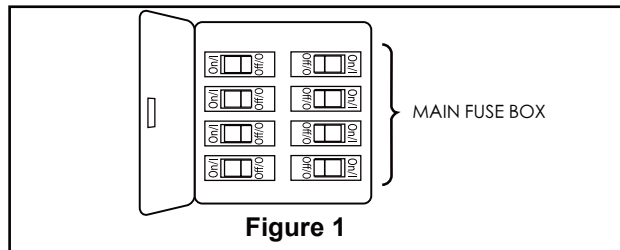
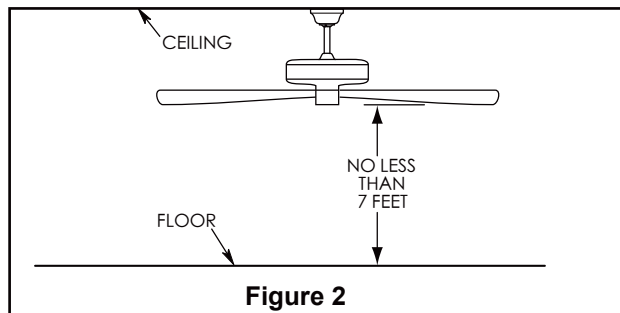
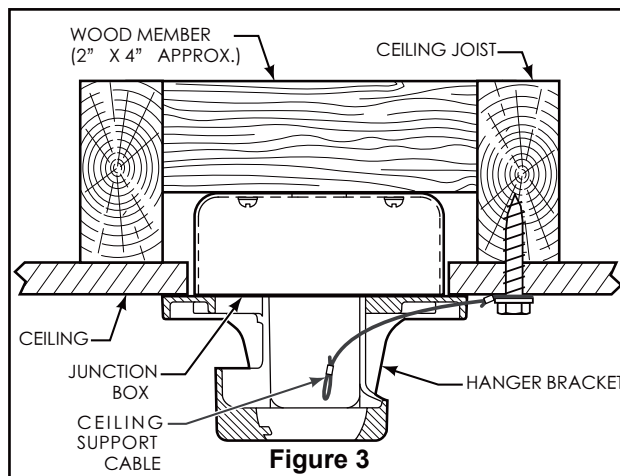

Figure 1
Figure 2
Figure 3
Your new ceiling fan will require a grounded electrical supply line of 120 volts AC, 60 HZ, 15 Amp Circuit. Electrical code requires use of a fan-rated outlet box to support the extra weight and motion associated with a ceiling fan. A fan-rated box will be labeled as such and typically supports up to a 70lb ceiling fan. Fan-Rated Outlet Boxes vary in ratings and design. Ensure the ratings of your ceiling fan outlet box meet the requirements for the ceiling fan being installed. Figure 1, Figure 2 and Figure 3 depicts different structural configurations that may be used for mounting the outlet box.
### Low-profile use (Figure 1)
### Deep-profile use (Figure 2)
### Brace use (Figure 3)
1. Cut off excess lead wire approximately 6 to 9 inches above top of the top of the downrod. Strip insulation off 1/2 inch from the end of each lead wire. (Figure 1)
To avoid possible electrical shock, be sure electricity is turned off at the main fuse box before hanging. (Figure 1)
The fan must be hung with at least 7' of clearance from floor to blades. (Figure 2)
1. Using the  $\frac{3}{8}$ " x 2" lag bolt and flat washer, attach safety cable to ceiling joist or wood structural member. The lag bolt will pass through the flat washer, safety cable loop, and into the building structure (Figure 3). You will first drill a  $\frac{1}{4}$ " pilot hole into the building structure to prevent splitting or cracking.
**NOTE:** Ceiling support cable cannot be secured to junction box only, it must be directly secured to ceiling joist or structural member using the  $\frac{3}{8}$ " x 2" lag bolt and flat washer. (Figure 3)
1. To set the code on receiver unit, slide dip switches to the same positions as set on the remote. (Figure 1)
To avoid possible electrical shock, be sure electricity is turned off at the main fuse box before wiring (Figure 2).
2. Connect green wires from hanger bracket and downrod to bare (ground) wire using wire connector. Connect black wire from receiver unit marked "AC IN L" to black supply wire using wire connector. Connect white wire from receiver unit marked "AC IN N" to white supply wire using wire connector. Connect white wire from receiver unit marked "TO MOTOR N" to white wire from fan using wire connector supplied with receiver unit. Connect black wire from receiver unit marked "TO MOTOR L" to black wire from fan using wire connector supplied with receiver unit. Lastly, connect blue wire from receiver unit to the blue fan light wire using wire connector supplied with receiver unit. (Figure 3)
2. Securely attach and tighten the canopy screw cover over the shoulder screws in the hanger bracket utilizing the keyslot twist-lock feature. (Figure 2)
- 2. Assemble the light plate assembly to the motor assembly support bracket using the two key slots in the light plate assembly. Replace the previously removed screw and securely tighten all three screws. (Figure 2)
- 3. Remove one of the three screws in the light plate assembly and retain the screw for later. Slightly loosen the remaining two screws. (Figure 3)
- 2.** Restore electrical power to the outlet box by turning the electricity on at the main fuse box. (Figure 2)
- 3.** To make fan operational, install 23A/12V battery (included) in hand-held remote transmitter, with fan power off. Then follow the remote code setting process. (If not used for long periods of time, remove battery to prevent damage to transmitter). Store the remote away from excessive heat or humidity. (Figure 3)